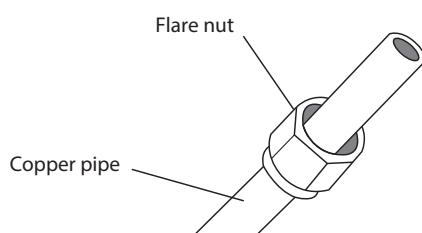

Fig. 11.3
3. Place flare nuts on both ends of pipe. Make sure they are facing in the right direction, because you can't put them on or change their direction after flaring. See Fig. 11.3